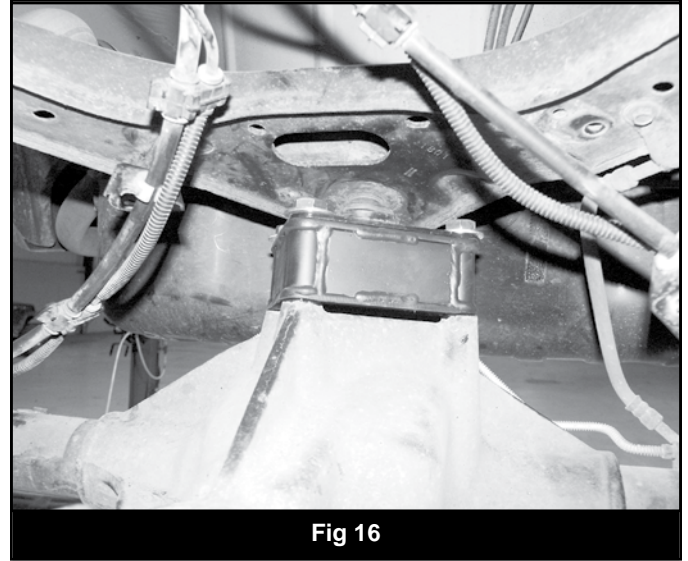

Fig 16
13. Install the provided control arm spacer (01320) between the differential housing and the upper control arm (Fig 16). Fasten the control and control spacer with 14mm x 80mm bolts and 9/16" SAE washers (BP #725). Use Loctite on the bolt threads and torque to 75-85 ft-lbs.